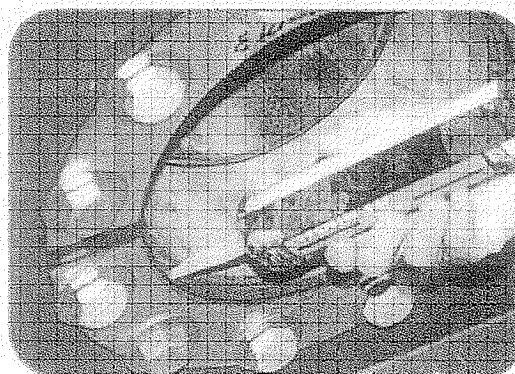

Figure 5 - Caulk Exposed Galvanized Steel
8. Seal any exposed galvanized steel of the connection inside the cold water basin with Vulkem® caulk as shown in Figure 5.